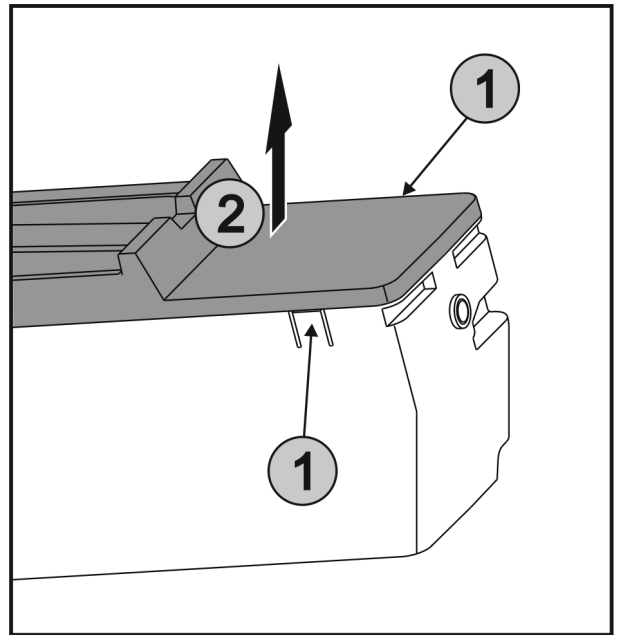

Fig. 60
- ▶ Press the lugs Fig. 60 (1) on both sides of the EasyTwist-Ice simultaneously and take off the lid Fig. 60 (2) to the top.